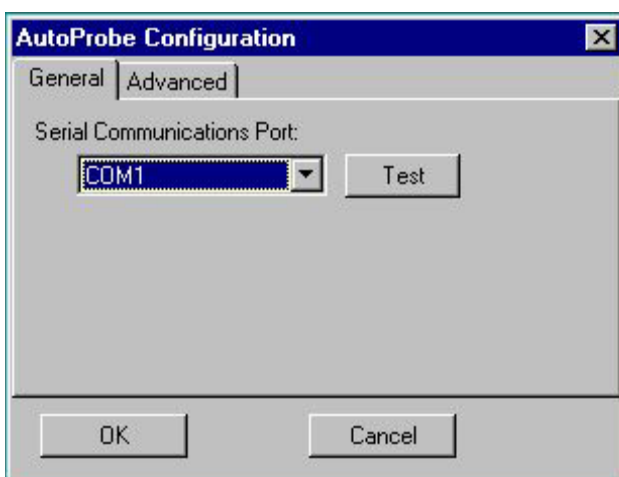
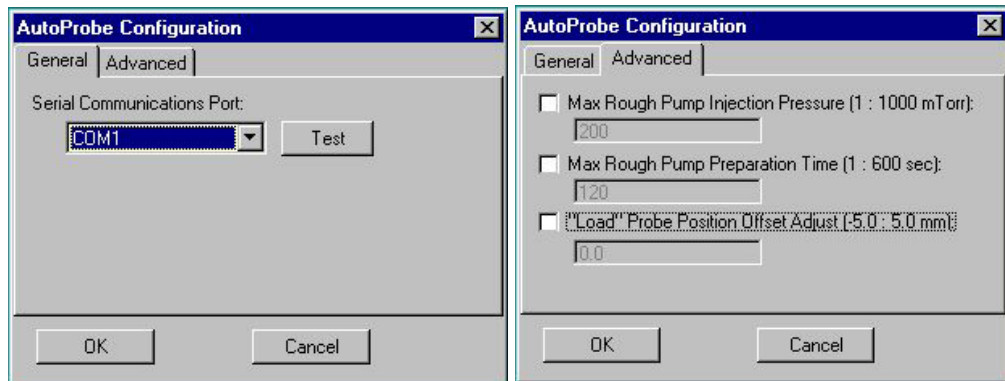

Figure 23 - AutoProbe Instrument Configuration Window
Figure 25 - AutoProbe Configuration Windows
- **SIS AutoProbe Software.** This software can run alone, for standalone control of the AutoProbe system, or it can attach to the Xcalibur Core, for integrated management of the AutoProbe system from Xcalibur. The SIS AutoProbe Software can be found on the SIS AutoProbe CD. This software must be installed after the Xcalibur Core software is installed. The default destination folder is “c:\Program Files\SIS\autoprobe”, but the author prefers “c:\xcalibur\autoprobe”. Accept the default for installing all components. At the end of the installation a dialog box pops up permitting you to configure the global AutoProbe settings (Figure 23). Specify the communications port on your computer to which the AutoProbe is connected to and click "Test" to verify the communication link to the AutoProbe System. You may need to press this button a second time for the entropy on the communications line to be cleared. You can safely ignore the advanced settings for now.
In the Xcalibur Instrument Setup window (Figure 23 and Figure 25), ensure that the SIS AutoProbe is installed in the right panel and double click the SIS AutoProbe button to configure it. This dialog was previously configured during the AutoProbe software installation, but it’s a good idea to double-check it now. It is important that the communications port is set correctly. The communications port is the serial port on our computer to which the AutoProbe is connected. It is necessarily different than the communications port that the PAL uses. You can test whether your choice of communications port is correct by clicking the “Test” button. You may need to press this button twice to clear out any entropy on the communications line.